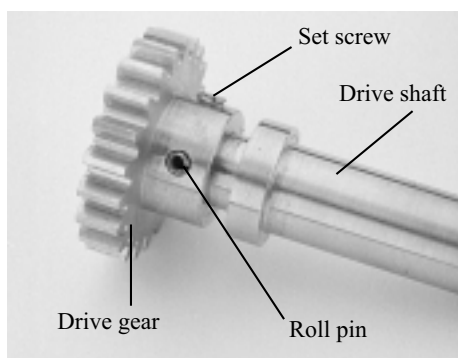
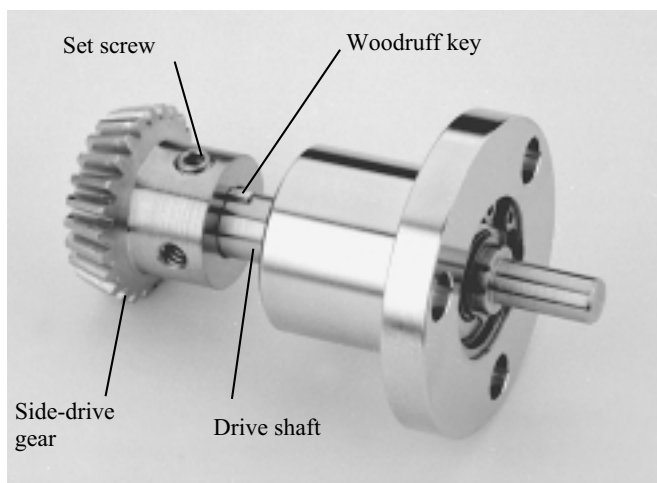

Figure 6-32. Bottom-drive assembly
Figure 6-33. Side-drive assembly
Step 5: Perform this step only if damage to either the drive gear or the drive shaft requires disassembly of these parts. If you are disassembling a bottom-drive assembly, first loosen the set screw that secures the gear to the shaft. Then use a small-diameter drift to drive out the roll pin that runs through both parts (see Figure 6-32). If you are disassembling a side-drive assembly, loosen the two set screws that secure the gear to the shaft and work the gear off the shaft. Working the gear free may take some vigorous pushing and prying, as it is held tightly in place on the shaft by a Woodruff key (see Figure 6-33).